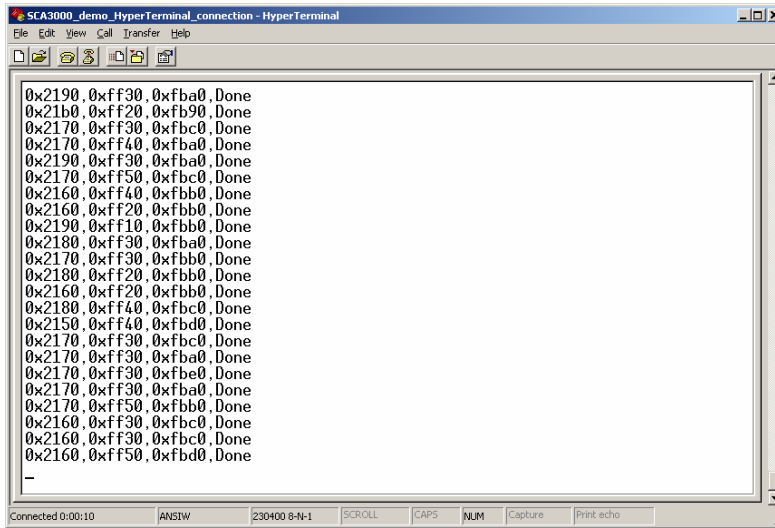

Figure 15. SCA3000 demo output during data logging.
7. The text file is actually a macro that runs in an endless loop. The macro sends 3-axis acceleration data in hex format to HyperTerminal (see Figure 15). Example of data format: